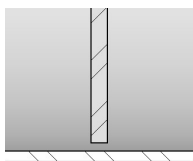
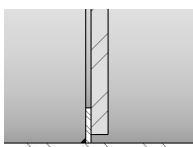

Fig. 15
Fig. 16
- **Seat 4:** Air-sealed. This type of seal is particularly special. The valve is designed with a dual seal, between which air is injected to completely separate the gases on both sides of the swing check (fig. 15). This type of valve requires a dual swing check, which closes against the dual half-moon rim system fitted inside the body. In order to inject air in the seal, a fan system with a check valve is attached (fig. 16), meaning the conduit gases cannot leave through the fan pipe when the damper butterfly is open. We therefore calculate that this type of seal achieves watertight integrity of 100%.